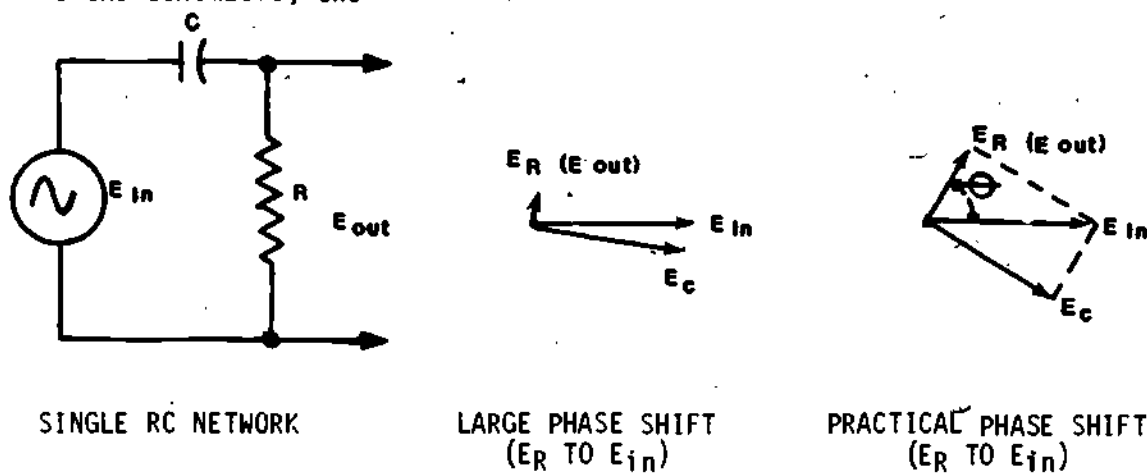

Figure 2
4. A single RC phase shift circuit is shown in Figure 2. In addition to the schematic, two sets of vectors are shown.